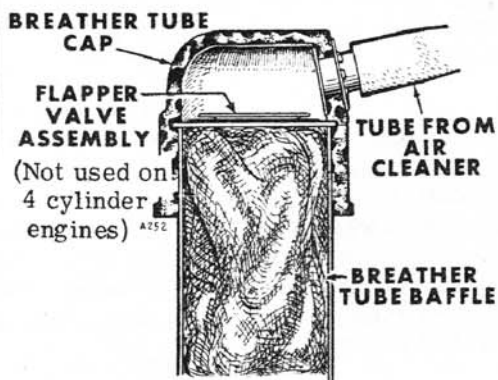

Fig. 18 Breather Valve
- H. - **BREATHING VALVE.** Lift off rubber breather cap, figure 18. Carefully pry valve from cap. Otherwise press hard with both of your thumbs on top of cap and fingers below to release valve from rubber cap. Wash this fabric flapper type check valve in fuel. Dry and reinstall positioning perforated disc toward engine.